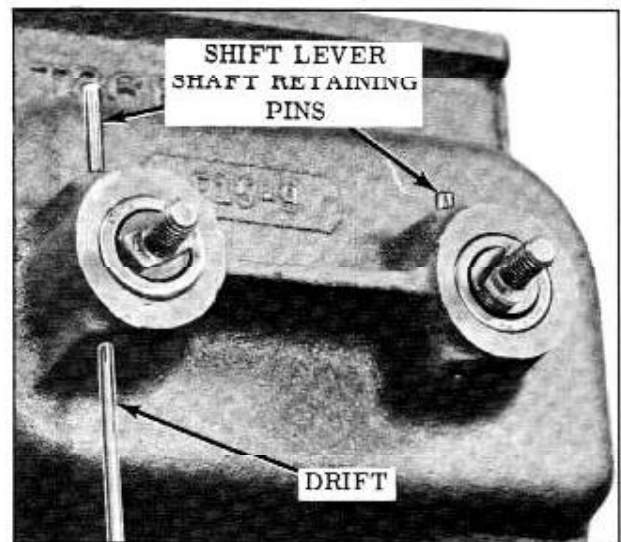

Fig. 10-12 Removing Shift Lever Shaft Pins
17. Remove the two shift lever shaft retaining pins. These pins are tapered and will come out from the top only. With a drift, drive the retaining pins out of the case. (Fig. 10-12)